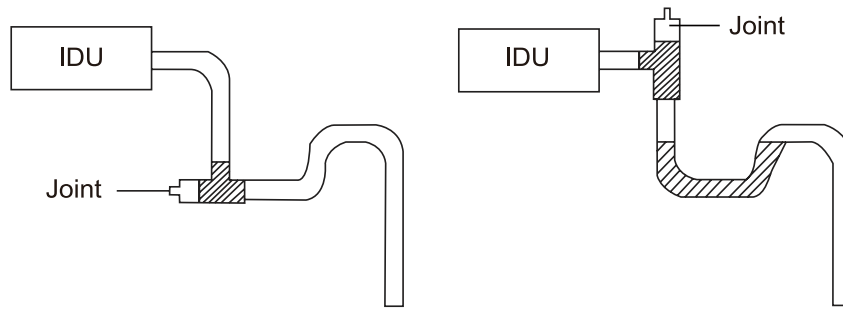

Fig 4.3.6
- (6) Install the trap as shown in following Fig 4.3.6.
- (7) Install one trap for each unit.
- (8) Convenience for cleaning trap in the future should be considered when installing it.